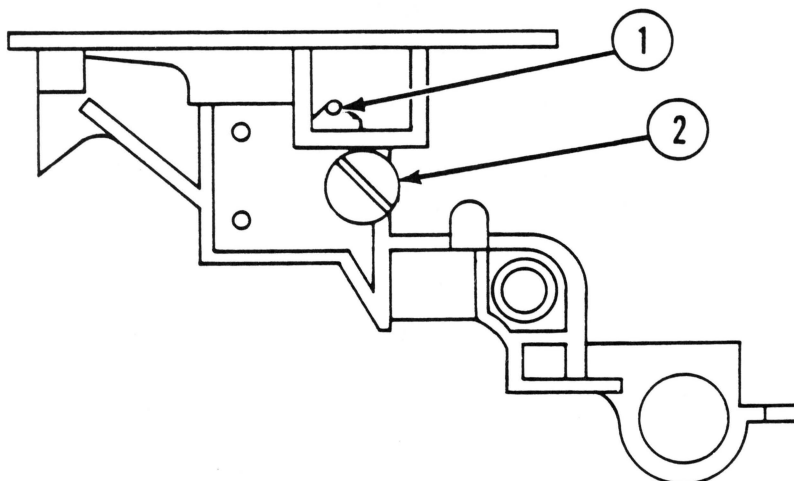

FIGURE 9
2. Loosen the nut on the back of the up-stop with a 1/4 inch wrench. Rotate the up-stop to its highest position. (See Figure 9, #1.)
3. Use a flat blade screwdriver in the eccentric (Figure 9, #2) to raise or lower the support plate. If the print is too high on the ribbon, the ribbon is too low, so raise the support plate. If print is too low on ribbon, lower the support plate.